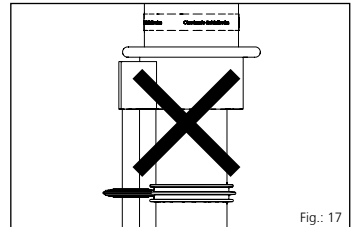
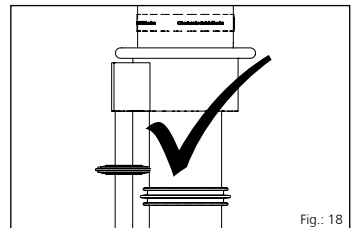

Fig.: 17
Fig.: 18
- The water barrier flange from the ground spike may **not** be at the same height as the 3-ribbed seal of the casing pipe for reason of space (see Fig.: 17 and Fig.: 18).